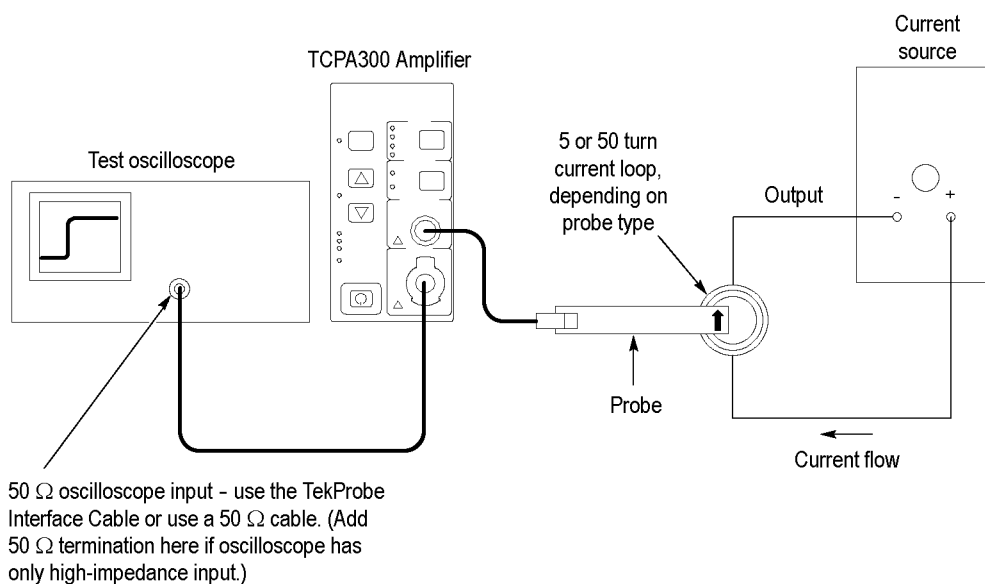

Figure 6: Overload test setup
1. Connect the circuit as shown. (See Figure 6.) The correct current loop to use for the probe you are testing is available. (See Table 10 on page 15.)